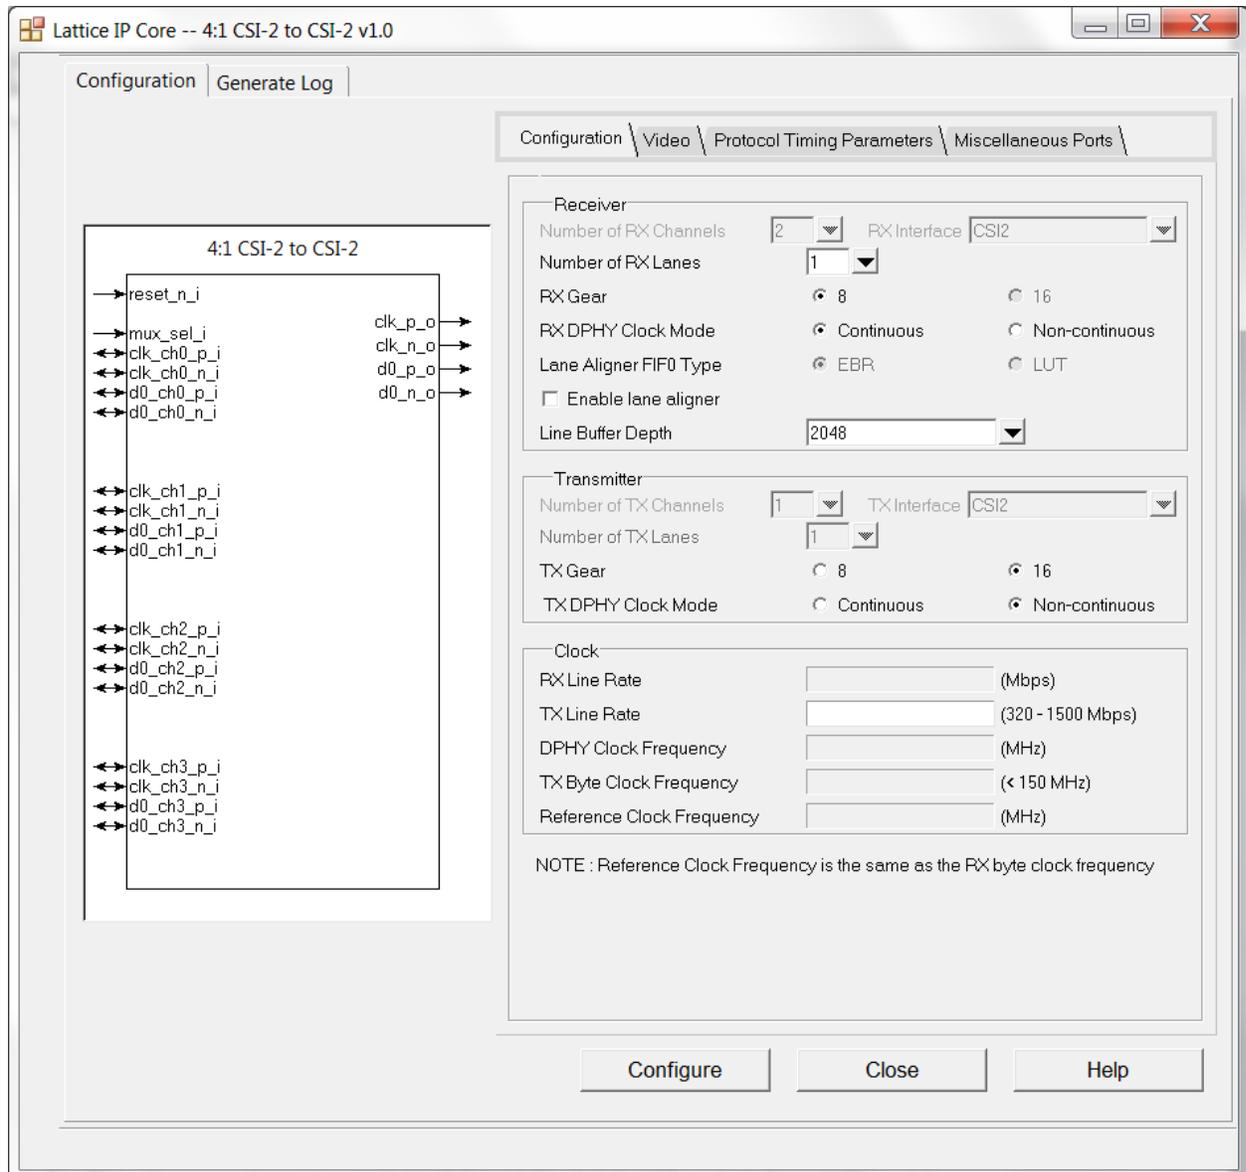

Figure 4.4. Configuration Tab in IP User Interface
3. Click the **Customize** button. An IP configuration user interface is displayed as shown in Figure 4.4. From this dialog box, you can select the IP parameter options specific to your application.